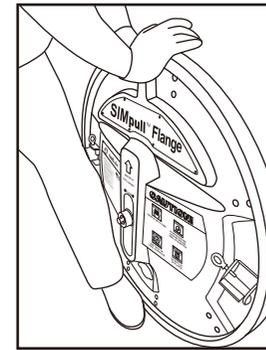

Fig. 3A
- NOTE: Use your foot to brace the bottom of the flange while applying pressure to the top of the flange with your hand to ensure flange is completely seated before tightening hub screw (Fig 3A)